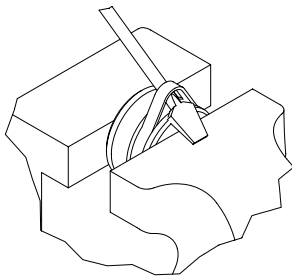

Figure 1-4, Piston Seal Removal
8. Carefully pry up on the piston seals using a blunt tip screw driver being careful not to scratch the seal grooves. Cut the seals to remove from the piston. (Figure 1-4)